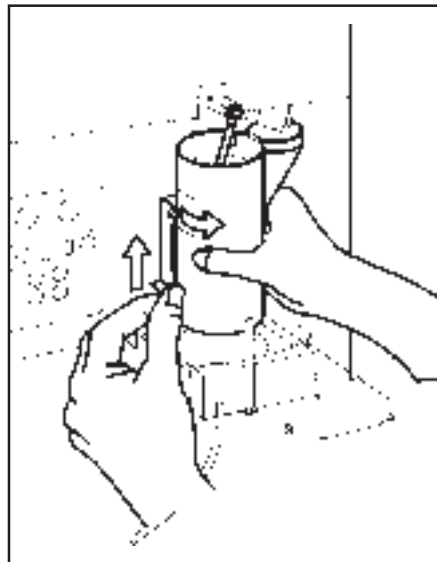

Fig.12: Removing the cylinder
3. Press the spring-loaded locking plate on the left-hand side behind the cylinder (see fig. 12) upwards.